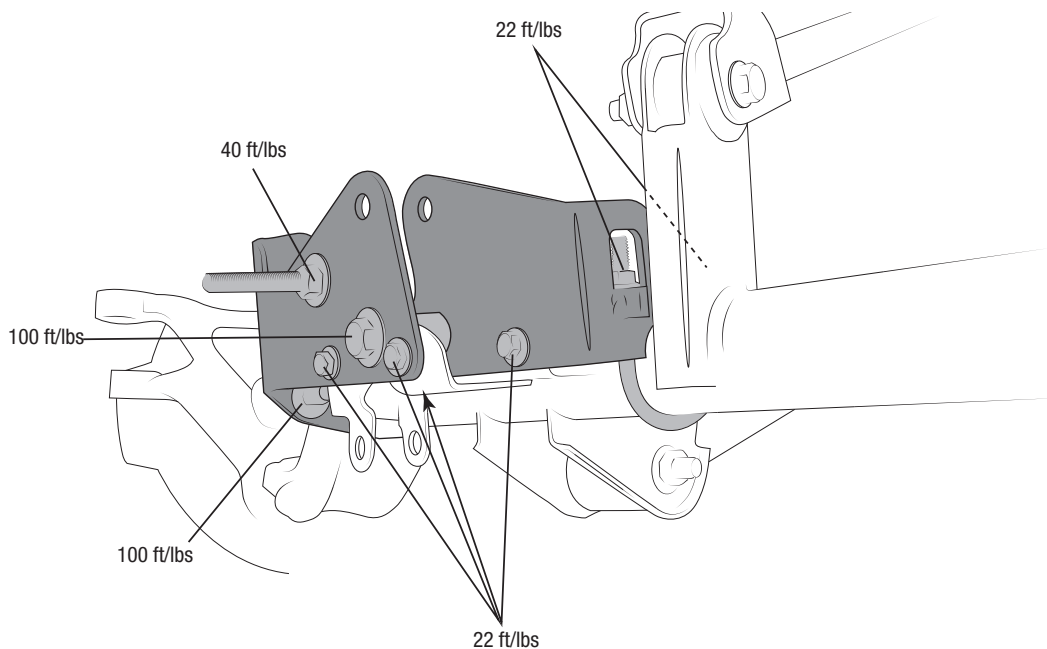

Figure 4
2. Add the supplied u-bolt and nuts (visible in Fig. 4).